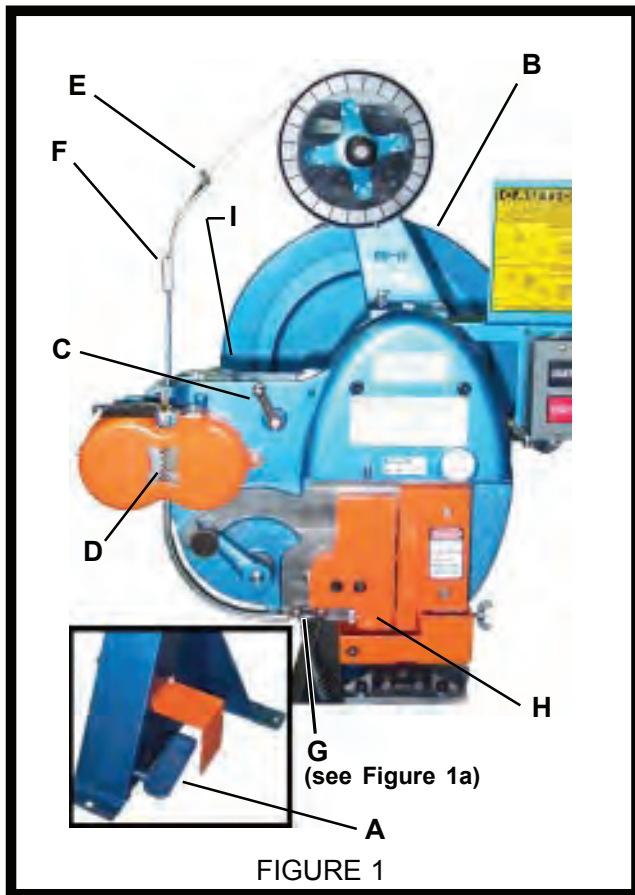

FIGURE 1
Before operating stitcher by motor power, depress the foot treadle (Index A, figure 1) and turn fly-wheel (Index B, figure 1) by hand (clockwise when viewed from front of machine) to make sure that the stitcher head will complete its cycle without interference.
3. Turn the feed control lever (Index C, figure 1) COUNTERCLOCKWISE and up, to open the wire feed gears (Index D, figure 1).
5. Thread the wire through the loop on the tension spring (Index E, figure 1).
6. Thread the wire down into the wire guide (Index F, figure 1) and through the wire feed gears and down until the wire is seen at the tube exit.
7. Guide the wire through the wire straightener (Index G, figure 1) and into the cutter block (Index H, figure 1) until it passes through the cut-off die.
9. Insufficient pressure on the wire feed roll will give a short or uneven draw. Excessive pressure will flatten the wire. The pressure should be such that a uniform draw is attained for each stitch. To increase the pressure turn the wire pressure screw (Index I, figure 1) at the top of the face plate to the right; to decrease, in the opposite direction. This adjustment should be checked whenever the size of wire is changed.
2. Open the wire feed gears. Depress the foot treadle (Index A, figure 1) and turn the flywheel by hand until the formers are at the lowest part of their stroke.